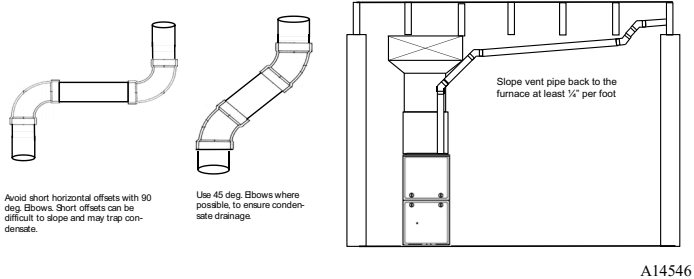

Fig. 50 – Near Furnace Vent Connections
Offsets in the vertical portion of the vent pipe should be made with 45 deg. elbows instead of 90 deg. elbows. Short horizontal runs of vent pipe are difficult to pitch correctly and may trap water in the vent pipe, see Fig. 50.
3. Tighten the clamp around the vent elbow. Torque the clamp to 15 lb-in, see Fig. 50-Fig. 55.